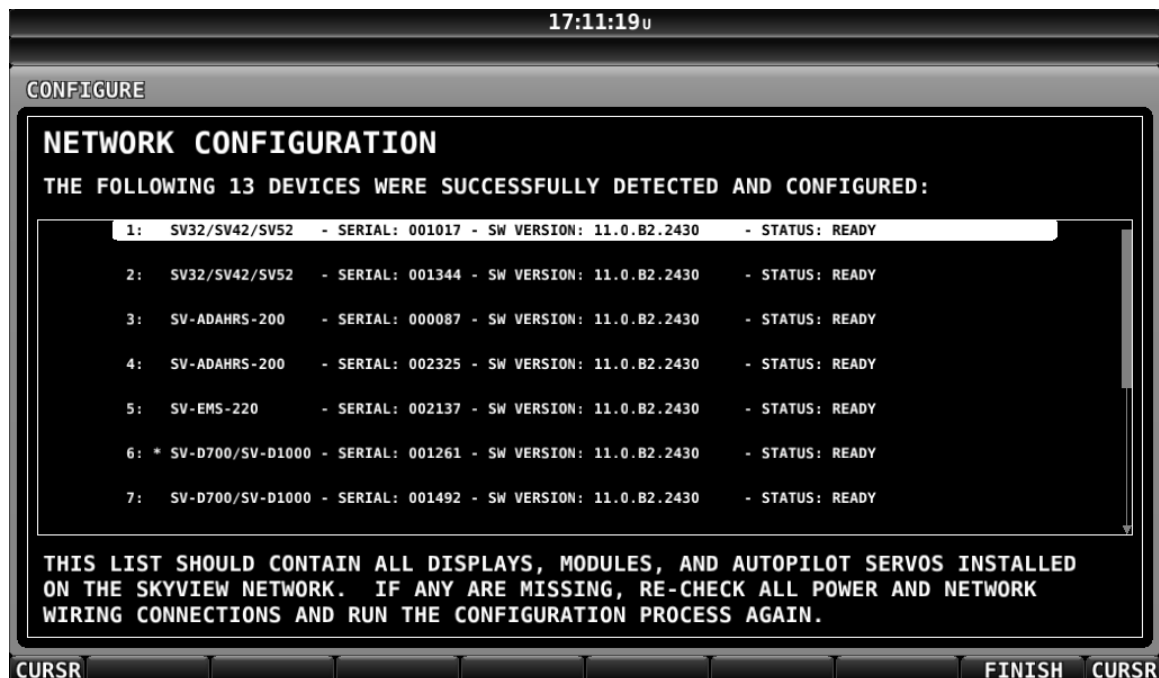

Figure 22—Successful SkyView Network Configuration Screen
2. *Press DETECT.* A successful network configuration yields the screen in Figure 22.